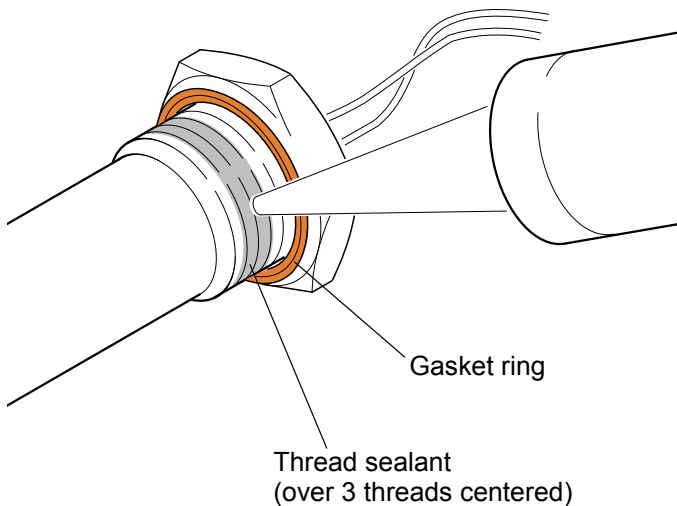

Fig. 806
- Apply thread sealant according to the manufacturer's instructions onto the thread, see Fig. 806, of the heating cartridge (20) or screw plug (21).